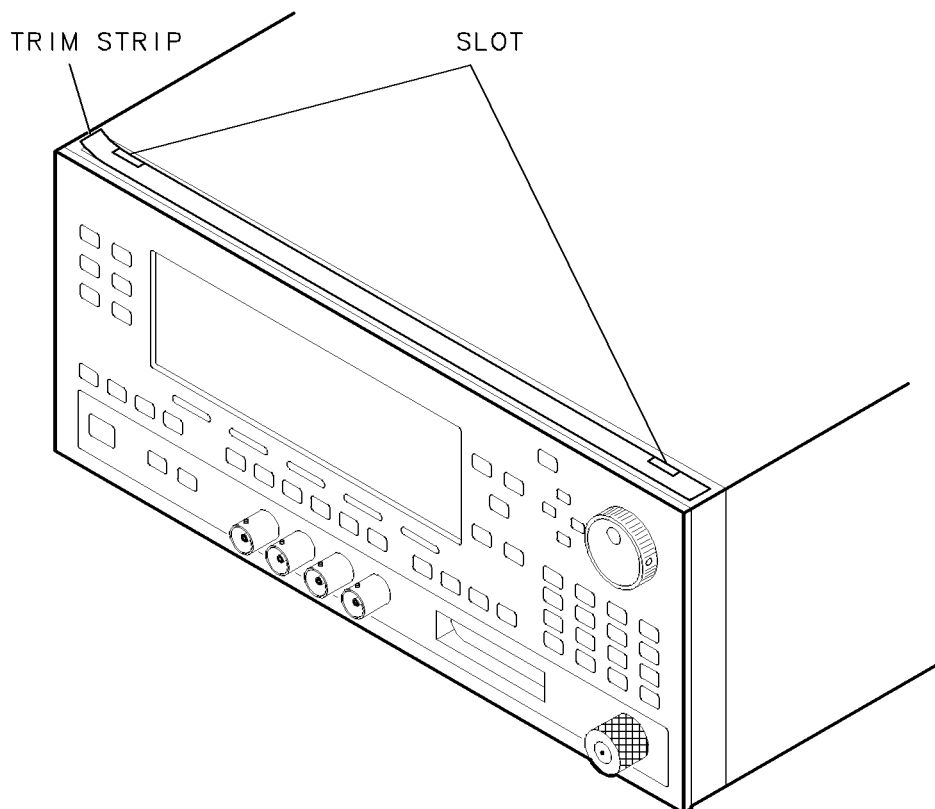

Figure 7-52. Front Edge Trim Strip
6. Remove the vinyl trim strip from the top, front edge of the instrument. (Place a flat screwdriver in either slot in the trim strip and lift to remove, see Figure 7-52).